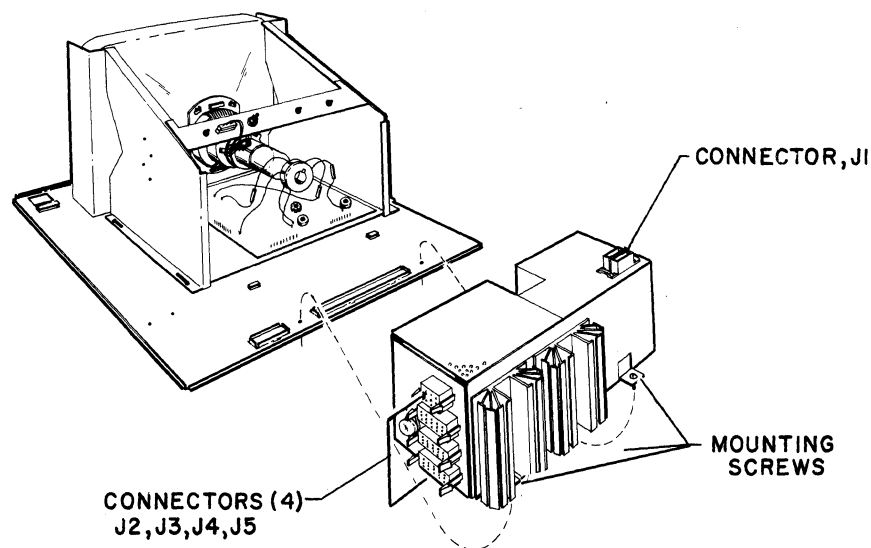

Figure 6-17. Power Supply Module Mounting
- 4) Disconnect all cables from power supply module (see figure 6-17).
- 5) Remove two mounting screws from mounting tabs located at rear of power supply module (see figure 6-17).